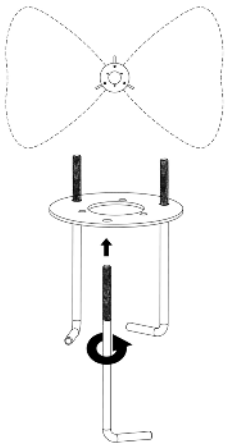

Fig. 1
1. Fit the 3 pieces of L shaped M8 screws into the holes of the plate (Fig. 1), leave 1.77" of the screws above the plate. (Fig. 1.2)